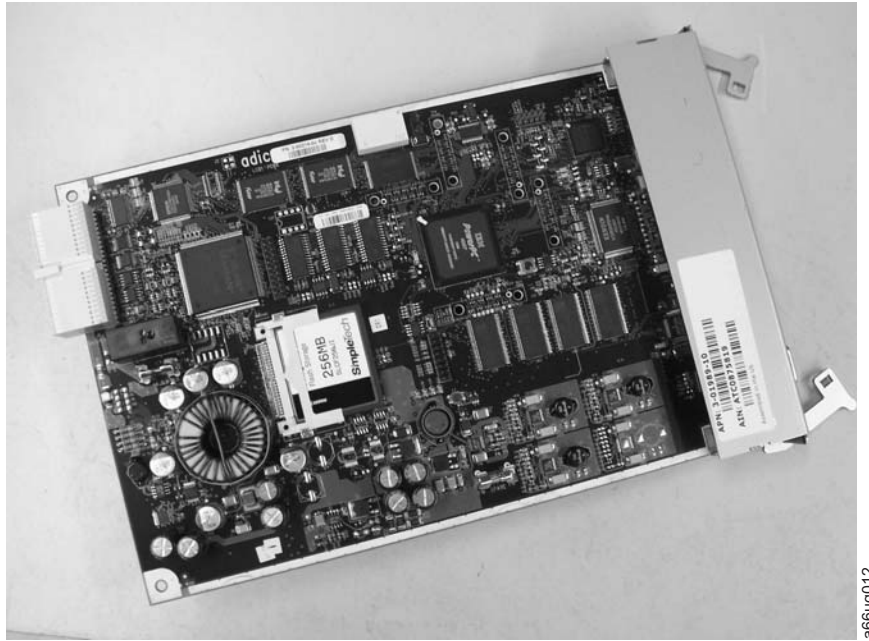

Figure 8-38. Library Control Blade (LCB)
5. Once the LCB has been removed from the control module, carefully lay it (Figure 8-38 on page 8-40) on a clean, flat surface.
Important: When handling the LCB, you must wear an ESD anti-static wrist strap, or touch the library frame to discharge any static electricity in your body. Do not handle the LCB without taking appropriate ESD precautions. DO NOT touch any components on the LCB firmware board (see Figure 8-38 on page 8-40). Hold it by the metal cover and support it by the metal ground plane only.